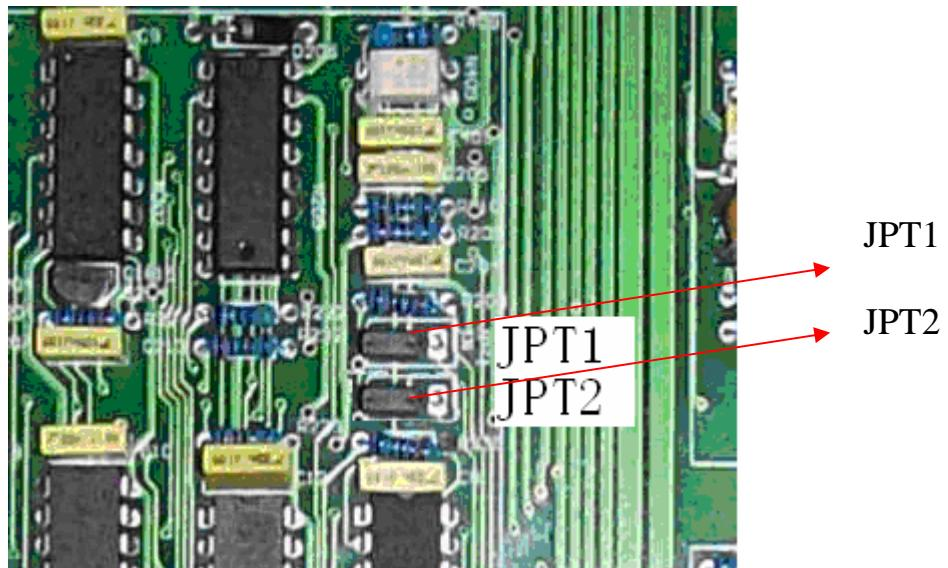

Figure 5: JPT1 Setting of Slip Wire
- E、 Connect the JPT2 on the controlling plate to PNP when you adopt the method of Torch Retaining Cap IHS. As Figure 5 shows(JPT1 was selected the mode of IHS , JPT2 was selected the type of Proximity Switch )